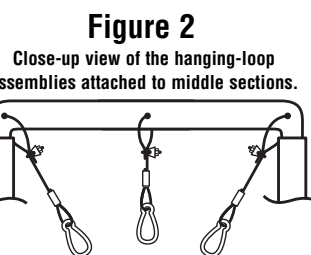

Figure 2
3. Slide the cable clamp up on the cable and tighten it, leaving one inch of cable hanging below. See Figure 2.